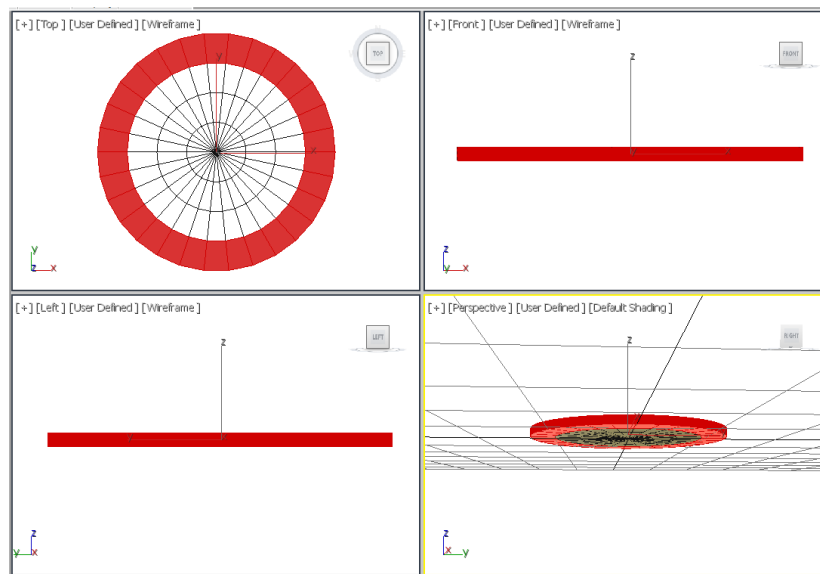

Figure 15-64 Selected polygons of sieve
4. Convert *sieve* into editable poly. Next, select the **Polygon** sub-object level and select outer polygons from all the viewports, as shown in Figure 15-64.